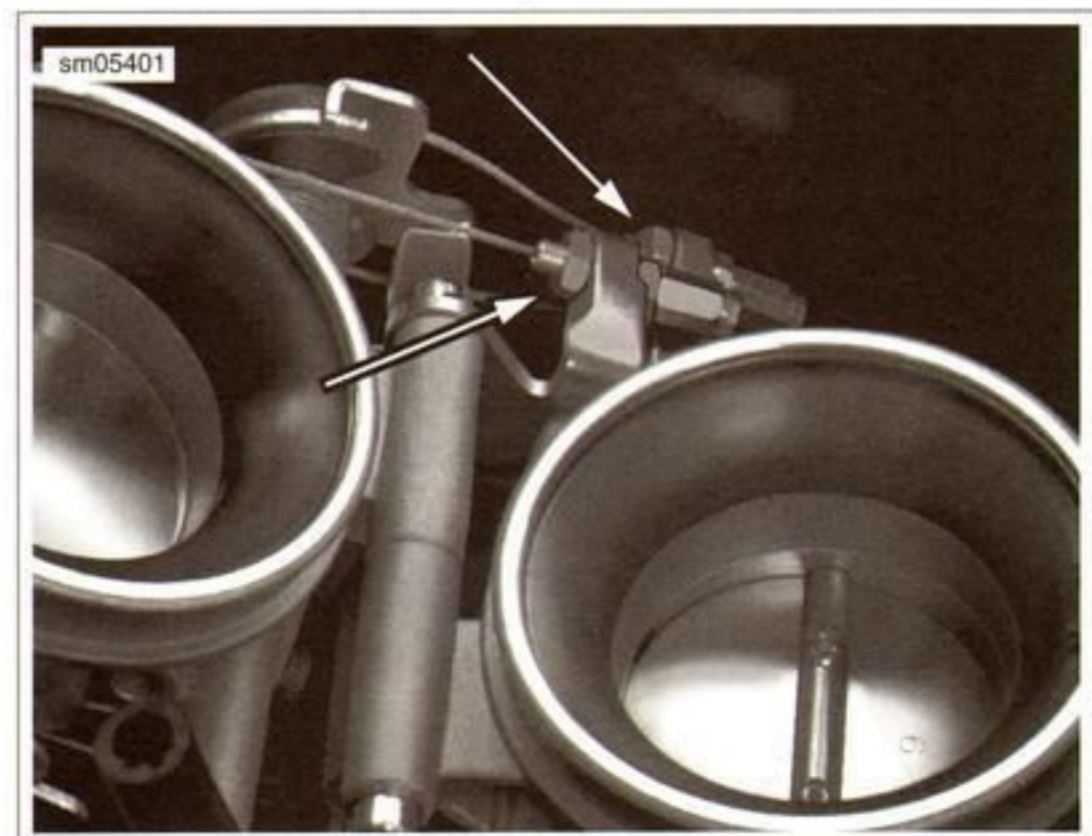

Figure 4-23. Throttle Cable Adjuster Jamnuts at Throttle Body
3. See Figure 4-23. Position the lower idle control cable barrel in the throttle cam wheel of the throttle body, and then slip the adjuster into the lower throttle cable bracket. Adjust the front nut against the long adjuster and thread the rear jamnut against the cable bracket.